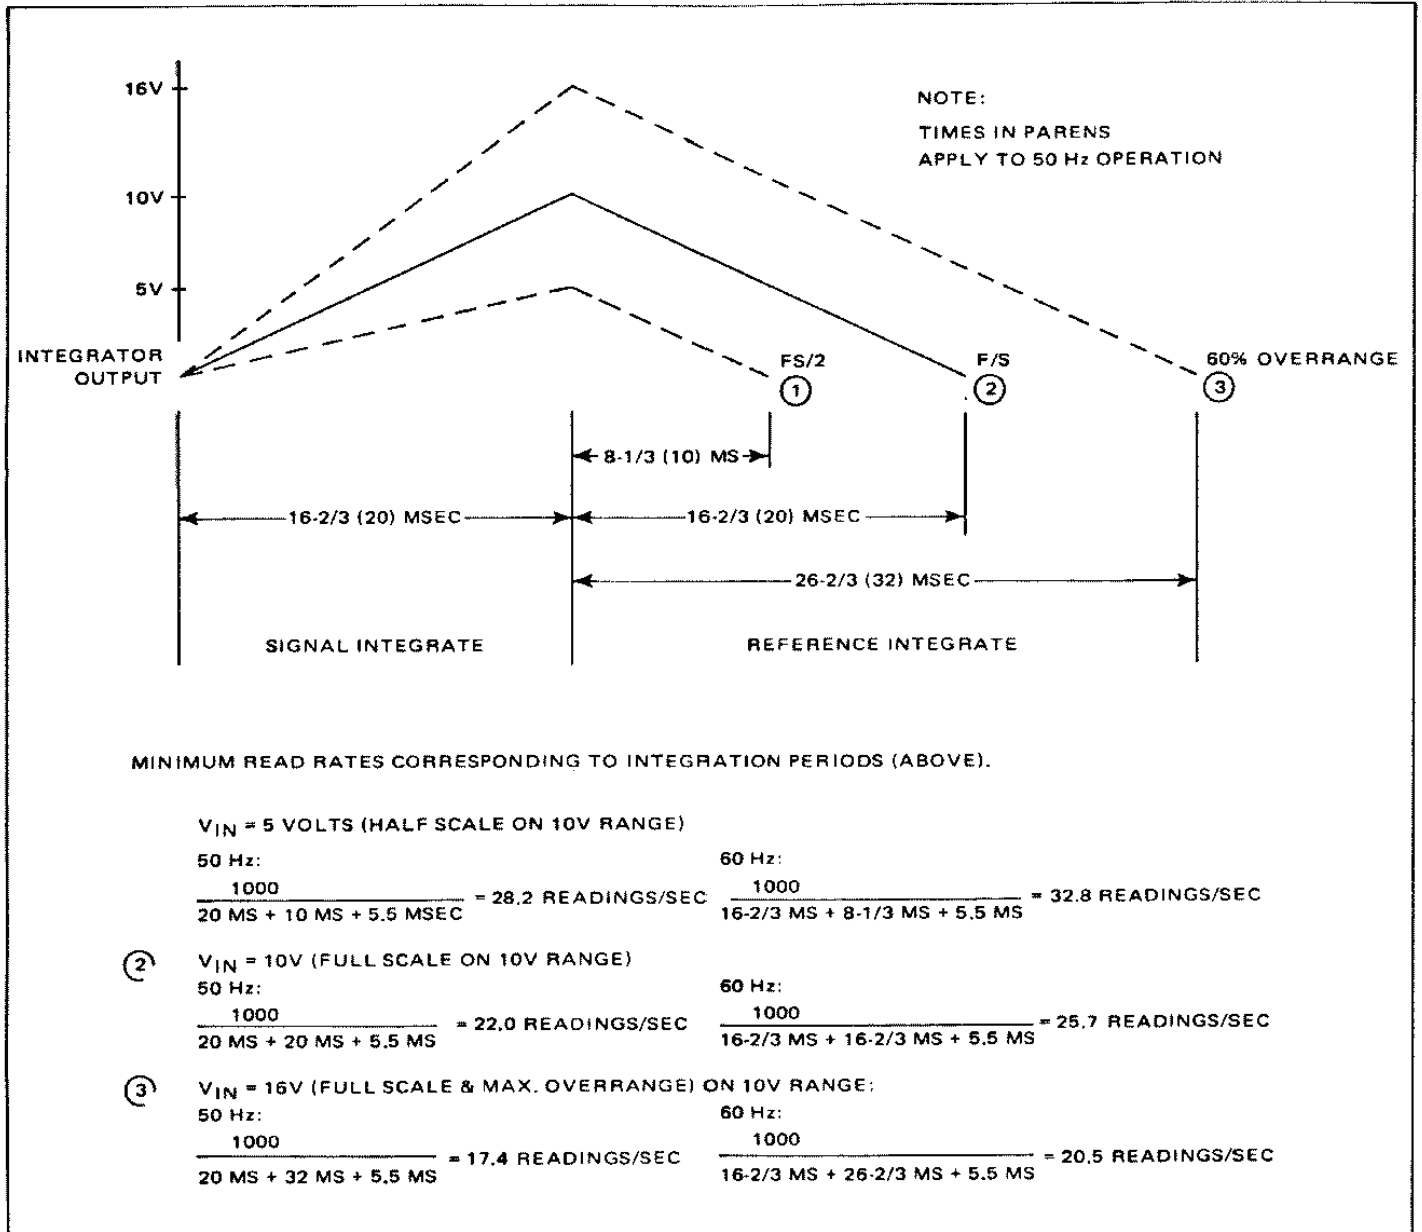

Figure 2.13 - Minimum Read Rate vs. Input
2.67 In figure 2.13, integrator operation with three different input signal levels is illustrated: half scale, full scale,